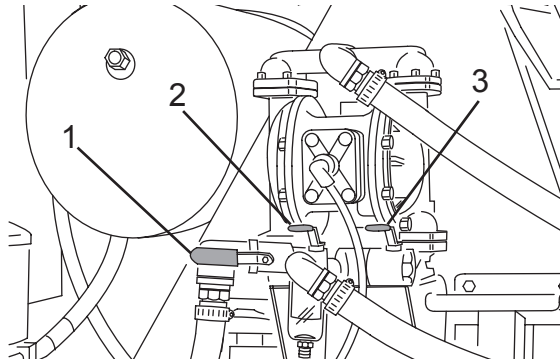

Figure 109
2. Open the main tank ball valve (Figure 109, Item 2) and chemical tank ball valve (Figure 109, Item 1) (if equipped).